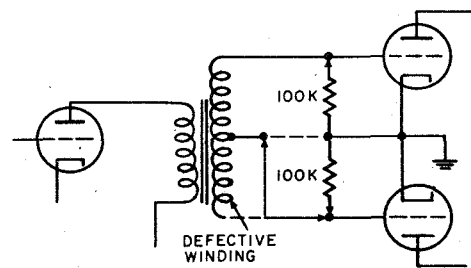

Figure 7-112. Emergency Repair of Audio Transformer
(2) AUDIO TRANSFORMERS. (See figure 7-112.)—A tapped audio transformer may be temporarily repaired by placing two resistors of equal value in the secondary, as illustrated.